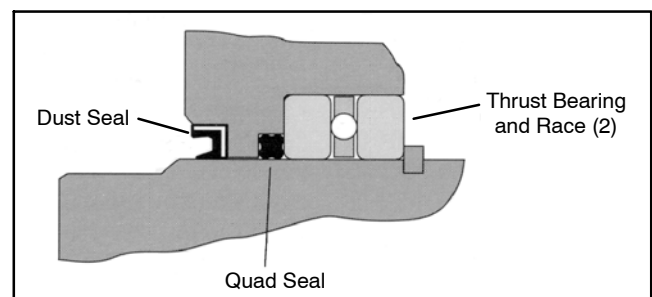

Figure 131
3. Install the centering springs in the spool. It is best to install the two (2) flat pieces first. Next, install the curved pieces, three (3) at a time.
8. Put the thrust bearing and races into the housing. The thrust bearing goes between the two races (Fig. 131).